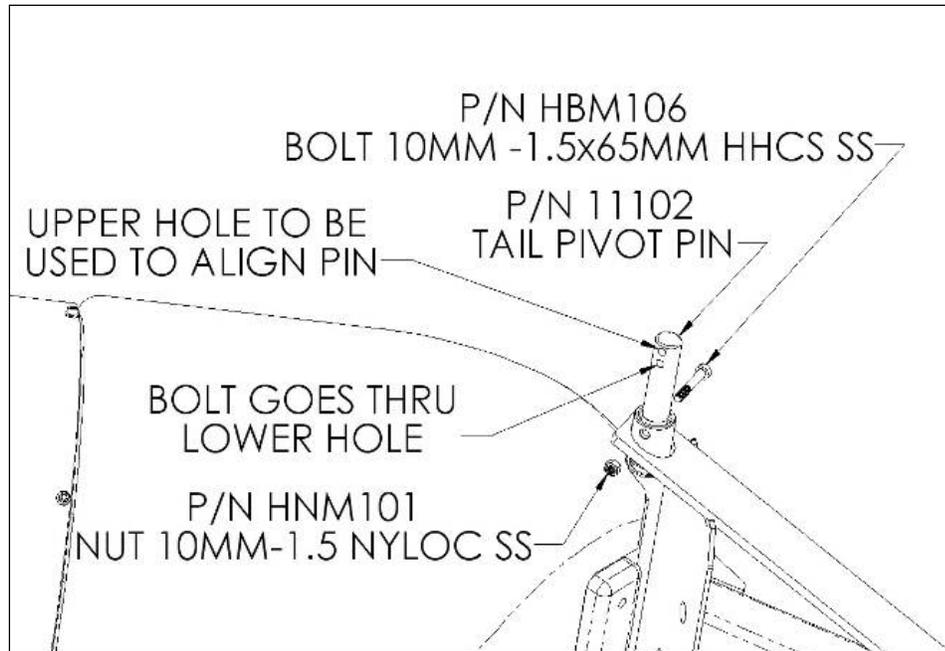

Figure 9: Excel 5 Tail boom and Pivot Pin
- d. Hold the tail boom in a position so the end with the fin is angled up ~ 15° and align the tail bushings with those of the powerhead, then insert the tail pivot pin as shown in **Figure 9**. The pin may need tapping through, but keep in mind that the stainless steel pin can be damaged if it is handled incorrectly. Use a block of wood or rubber mallet on the pin.